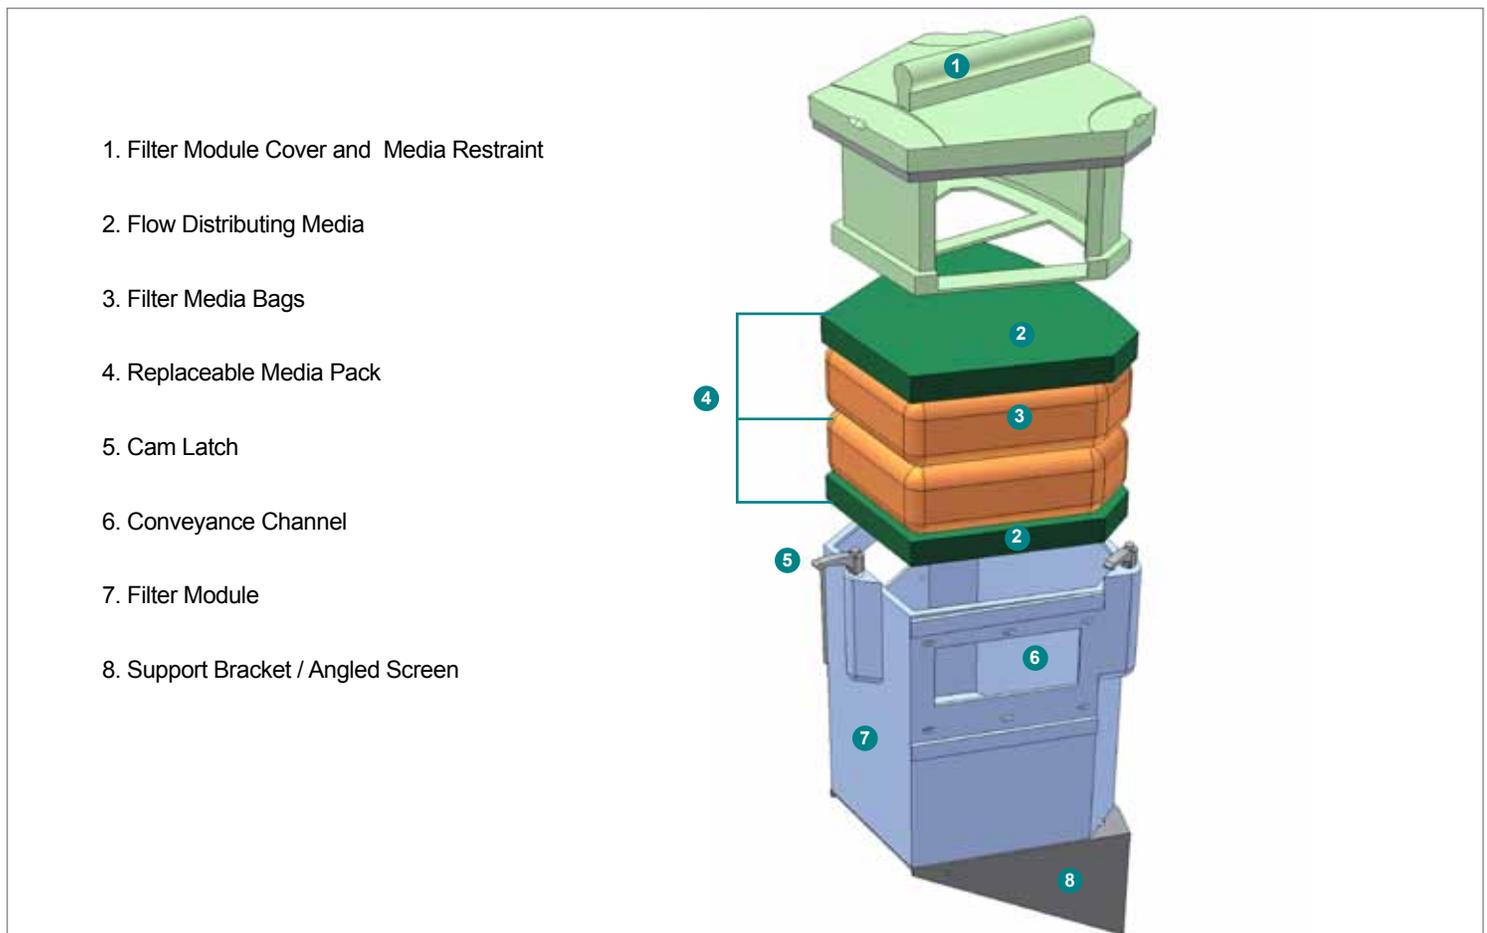

Fig.9 The Filter Module houses the Media Restraint and the Media Pack.
3. Open the Filter Module by turning the three cam latches on the front and sides of the module. Remove the lid ① to gain access to the Media Pack (Fig.9).
- A top layer of green ② Flow Distributing Media.
- Two (2) Media Bags ③ equipped with nylon handles.
- A bottom layer of green ② Flow Distributing Media.
- Next, insert the first of two (2) replacement Media Bags. Smooth the bag out with your hands to make sure that the bag extends snugly to the walls and corners of the Filter Module.